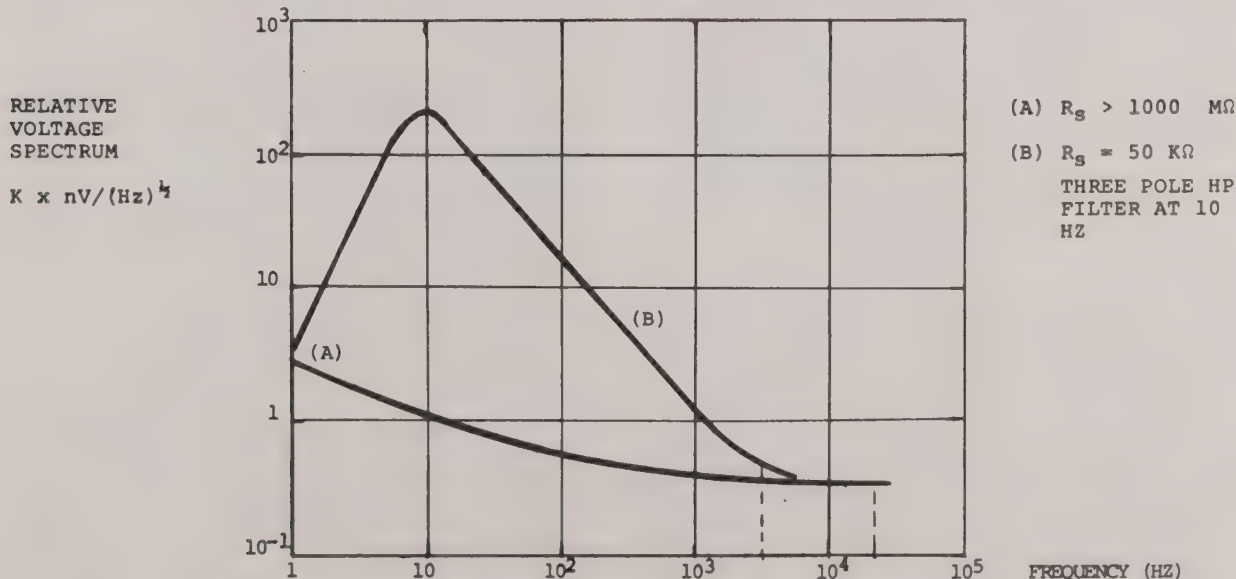

FIG. 4 RELATIVE NOISE SPECTRA FOR CHARGE CONVERTER WITH SHUNT RESISTANCE
The relative noise spectrum (RTI) for a differential charge amplifier with a very large value of shunt resistance is shown in Curve A of Fig. 4. Note that the spectrum rises slightly at low frequencies, which is characteristic of the high-quality FET selected for the input device in the charge converter.
Where R_S is the shunt resistance and C_f is the feedback capacitance of the charge converter. For $R_S = 50 \text{ K}\Omega$, $C_f = 1000 \text{ pF}$, $f_C = 3180 \text{ Hz}$. Curve (B) in Fig. 4 shows the effect described.